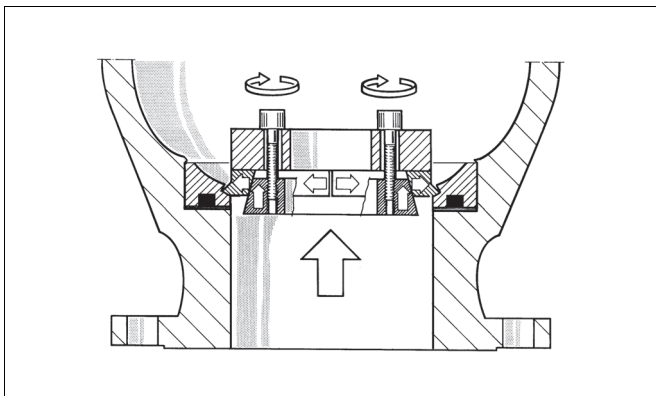

Fig. 18 Removing the locked seat
- ❑ Remove the seat from body cap if it is still in place. If the seat is locked, it must be removed using a special tool. See Fig. 18 and Section "Tools".